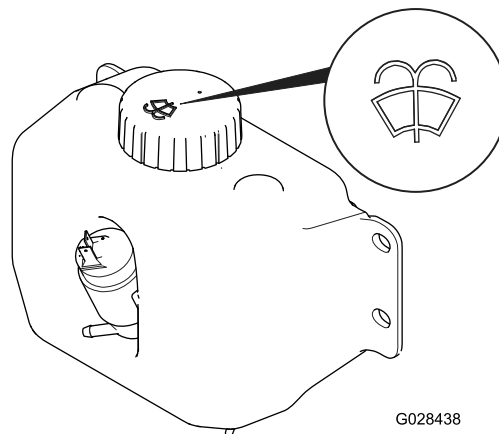

Figure 50
2. Open the hood and locate the washer-fluid bottle (Figure 50).